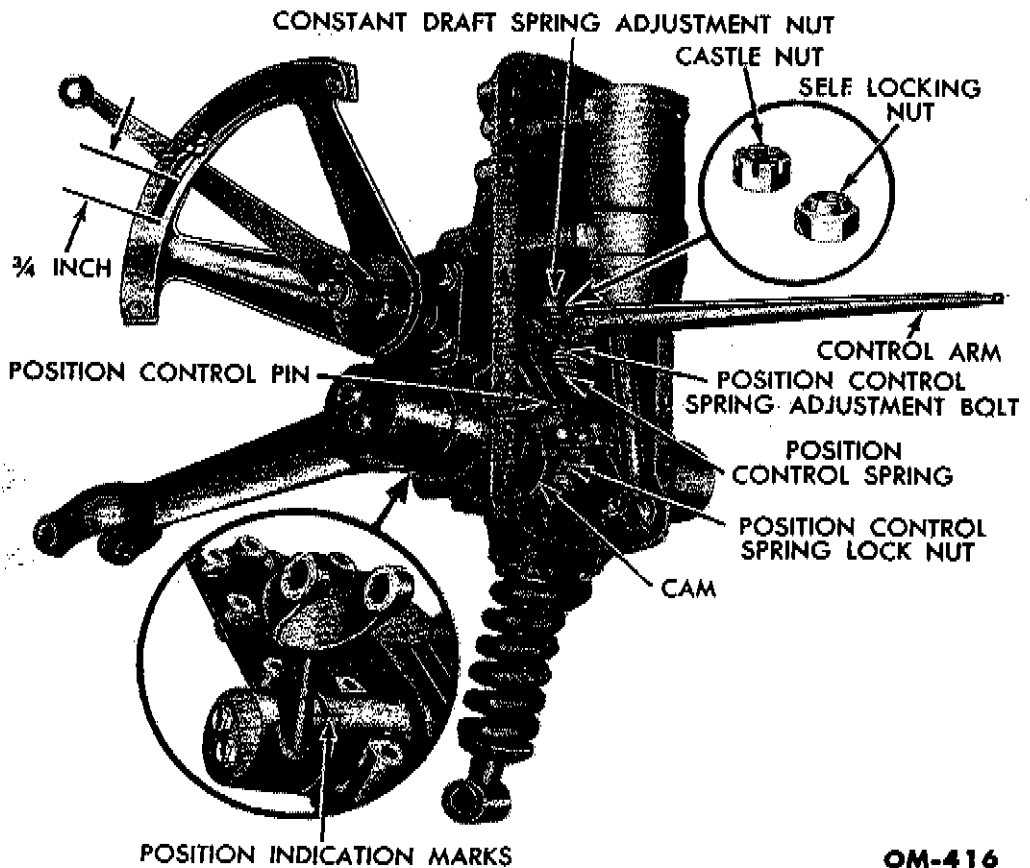

Fig. 29—Hydraulic Unit in Position for Adjustments
(1) Support the unit in a vise in a vertical position with the control spring down as shown in fig. 29.
(2) Examine the constant draft spring adjustment nut (fig. 29). If it is a lock nut, it should be tightened until the washer bears against the shoulder. If it is a standard castellated nut with a cotter pin, the nut should be adjusted to give the correct length of the constant draft spring, then the cotter pin can be installed. The constant draft spring should be 3.58 inches long (slightly over $3\frac{9}{16}$ inches is satisfactory) as shown in fig. 30.
of $\frac{3}{4}$ inch between the edge of the lever and the top end of the slot in the quadrant as shown in fig. 29.
(5) Make sure that the control arm moves freely and is held in a horizontal position by its own weight as shown in fig. 29. Loosen the position control lock nut, and adjust the length of the position control spring by turning the position control spring adjustment bolt (fig. 30). Adjust the position control spring length until the position control pin contacts the cam, and the position control-spring adjustment bolt contacts the control arm, as shown in fig. 29. It will probably be necessary to hold the position control pin in contact with the cam. The position control spring length should be $1\frac{29}{32}$ inches plus or minus $\frac{1}{16}$ inch after the adjustment has been made (fig. 30). Tighten the position control spring lock nut after completing the adjustment.